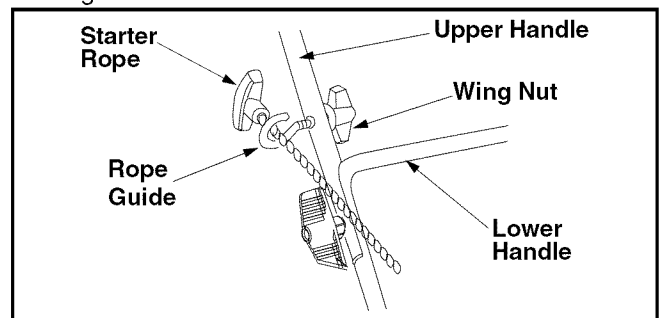

Figure 4
- If not there already, move rope guide to the first hole above the lower handle on right side. The wing nut loosens and secures the rope guide. See Figure 4.